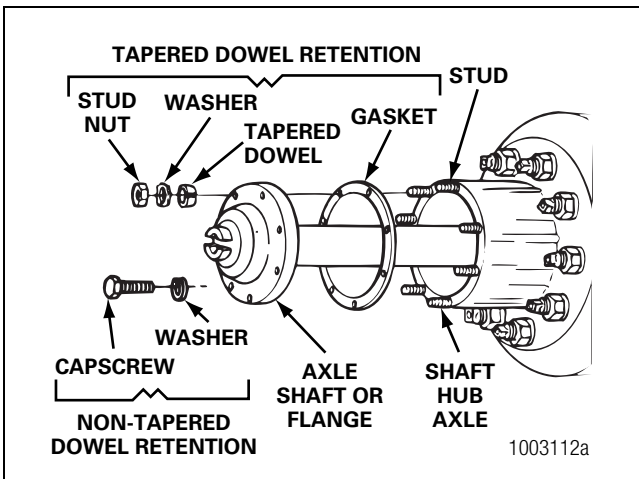

Figure 5.54
- Install the gaskets and axle shafts into the axle housing and carrier. The gasket and flange of the axle shafts must fit flat against the wheel hub. Figure 5.54.
- Install the gasket and the axle shaft into the housing. The gasket and the flange of the axle shaft must fit flat against the wheel hub. Figure 5.54.